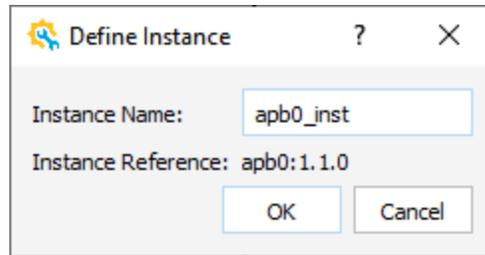

Figure 2.40. Define Instance Dialog Box
- b. Right-click on the desired component and choose **Instantiate**. The Define Instance dialog box (Figure 2.40) open.